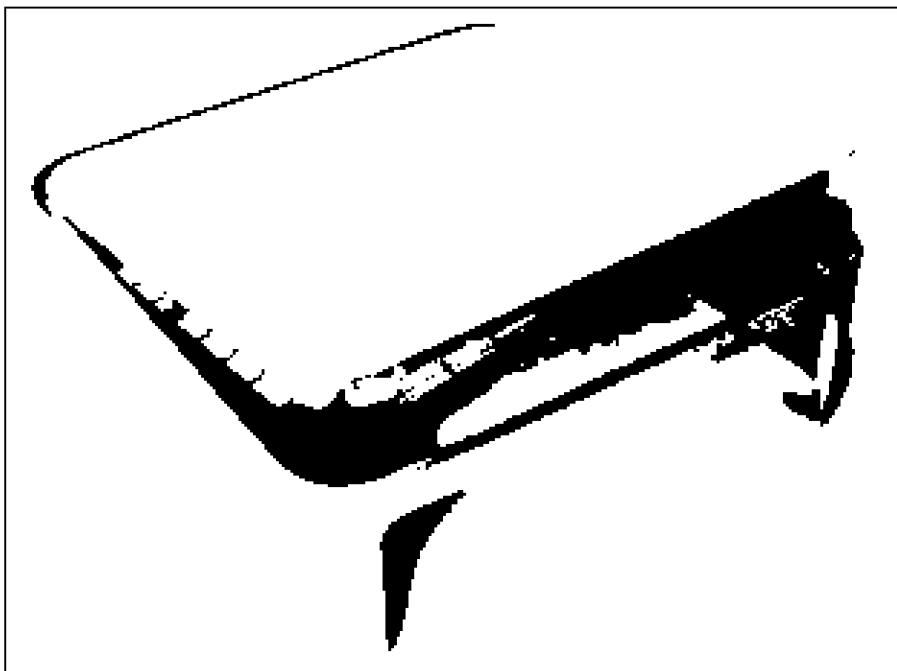

Figure 17-5:
4. Push down with your thumbs, slowly and steadily, until the edge of the top pops out of the aluminum frame, as shown in Figure 17-5.
If you plan on reinstalling the plastic top, try to break as few plastic rivets as possible. (These are the rivets that hold the plastic top to the EMI shield.) In Figure 17-5, you can see that because some of the rivets have broken, the corner of the top has separated from the EMI shield. You *will* break some of these — it's unavoidable.
5. Turn the outer casing right side up, as shown in Figure 17-5.
Replacing the top is more difficult than removing it. You must pop the tabs in the slots on all four sides of the interior of the outer casing. Refer to Figure 17-5 to see the tabs. They are very stiff and not easily bent.